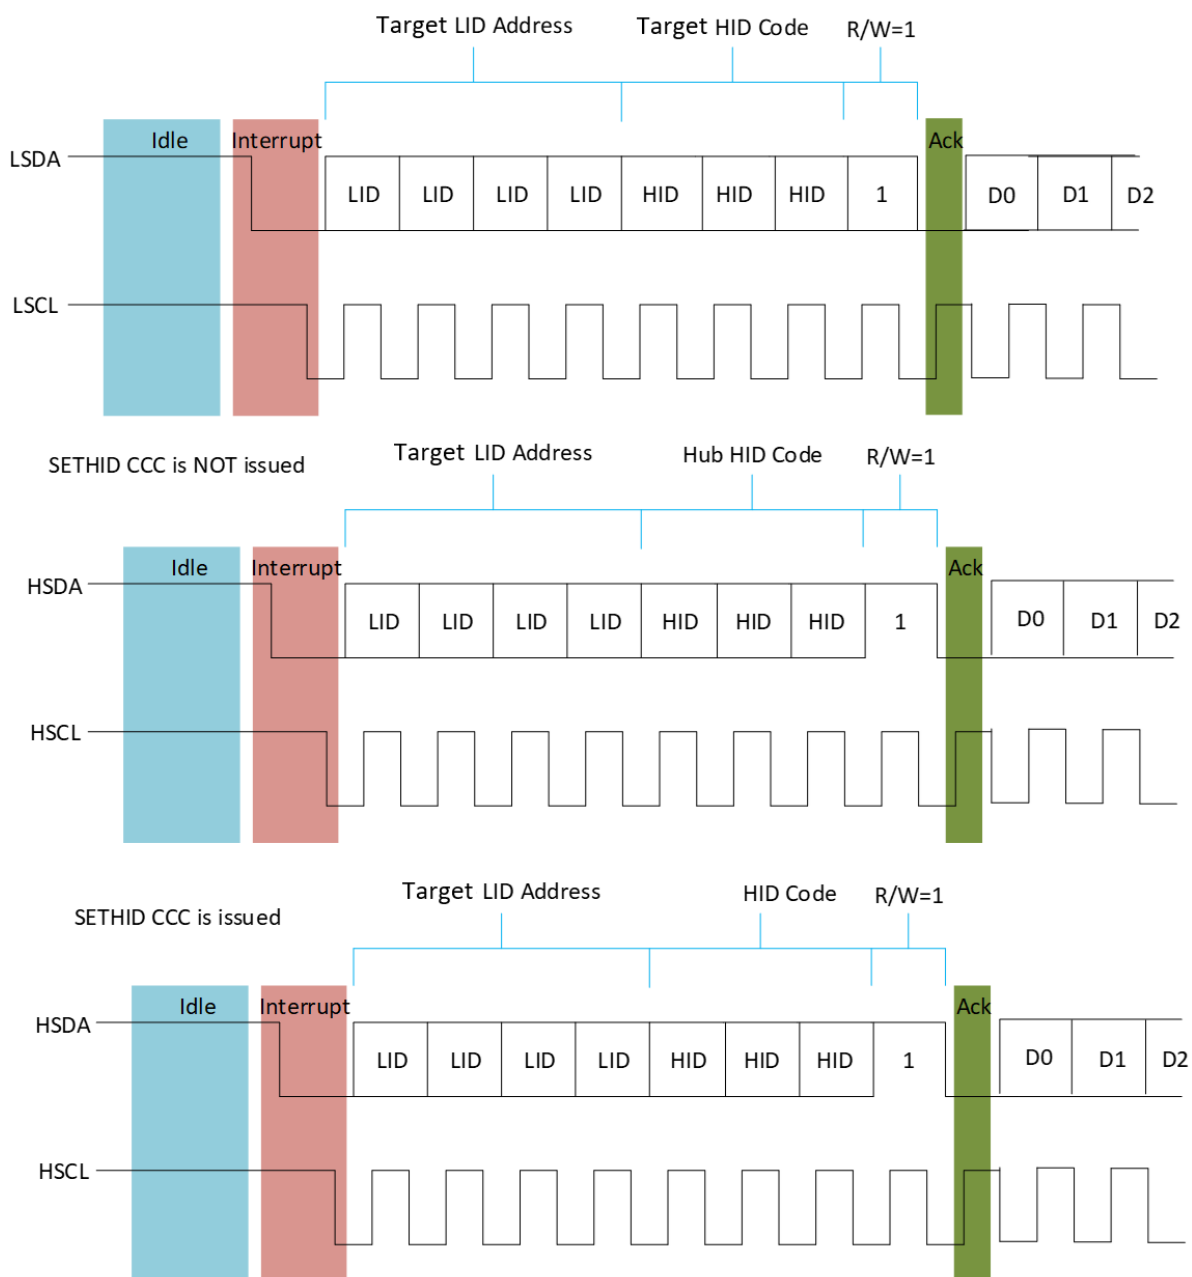

Figure 11 Local Device Interrupt - Host ACK Followed by Target Device IBI Payload
If the local device detects no START condition but if the Host to the local target device (through the SPD5 Hub device) bus (LSDA and LSCL) has been inactive (no edges seen) for  $t_{AVAIL}$  period, then any local device may assert LSDA low to request an interrupt. When the local device requests an interrupt, the SPD5 Hub device propagates the LSDA to HSDA to Host. The Host toggles the HSCL. The local device transmits its 7-bit binary address followed by R/W bit = '1' to the SPD5 Hub device. This is shown in Figure 11 top waveform.
The SPD5 Hub device forwards LID bits it receives from the local device to the Host. The SPD5 Hub device substitutes its own HID code in place of the HID bits it receives from the local device and sends to the Host if Host has not issued SETHID CCC previously. This is shown in Figure 11 middle waveform. The SPD5 Hub device forwards HID bits it receives from the local device to the host if Host has issued SETHID CCC previously. This is shown in Figure 11 bottom waveform. The SPD5 Hub device forwards the R/W bit = '1' to the Host.
- a. The Host sends ACK on 9th bit to accept the interrupt request. At this point, if the local device confirms that it has won the arbitration, the local device transmits the IBI payload as shown in Table 66 and Table 67 for PEC disabled and PEC enabled configuration respectively. Figure 11 just shows only first two data bits of MDB byte to illustrate the timing. The interrupt payload contains MDB followed by appropriate target device error register contents in order. The host then issues the STOP command. Note the timing waveform in Figure 11. The host then accepts the IBI payload if it sends an ACK on 9th bit to accept the interrupt request. The host can interrupt the IBI payload at T bit. If host stops the IBI payload at T bit in the middle of payload, the local device retains the IBI status flag and Pending Interrupt Bits [3:0] internally and waits for the next opportunity to request an interrupt. If the local device successfully transmits the entire IBI payload, it then clears IBI status flag and Pending Interrupt Bits [3:0] = '0000' on its own and does not request for an IBI again unless there is another different event occurs; for another same event, the device does not request for an IBI.